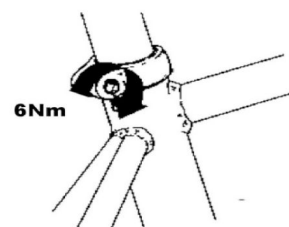

Fig. 1
- The rider's knee is slightly bent when the pedal is in its lowest position. Once the right seat height is established, JORBI recommends making sure that the seat post clamp is properly tightened (fig.1).